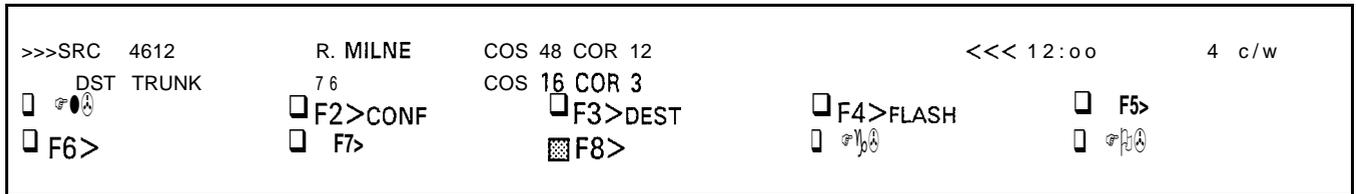

Figure 3-22 Flashing on a Trunk Call
3.28 If the console has a trunk as a source or a destination the FLASH prompt will appear at softkey position 4 as shown in Figure 3-22.